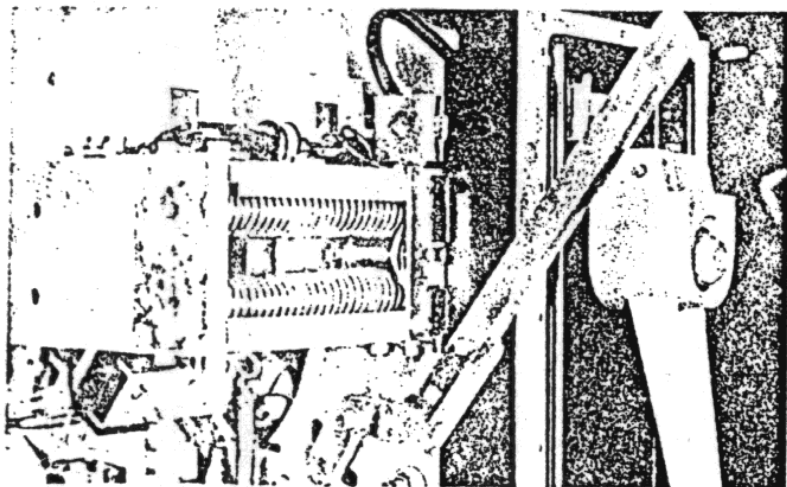

Figure 5
5. Insert maintenance closing handle #1151-9252 as in Figure 5 and slowly operate until arcing contacts touch. All arcing contacts should make simultaneously with a permissible variation of $\frac{1}{32}$ max. Moveable arcing contact fingers should align with stationary arcing contacts. If misalignment or misadjustments are observed, refer to Part 4 — MAINTENANCE FOR ADJUSTING INSTRUCTIONS. Moveable arcing contacts are designed with side clearances for better guidance inside arc chutes. A side to side movement of $\frac{1}{8}$ is allowed. Close breaker and check overtravel on main contacts.